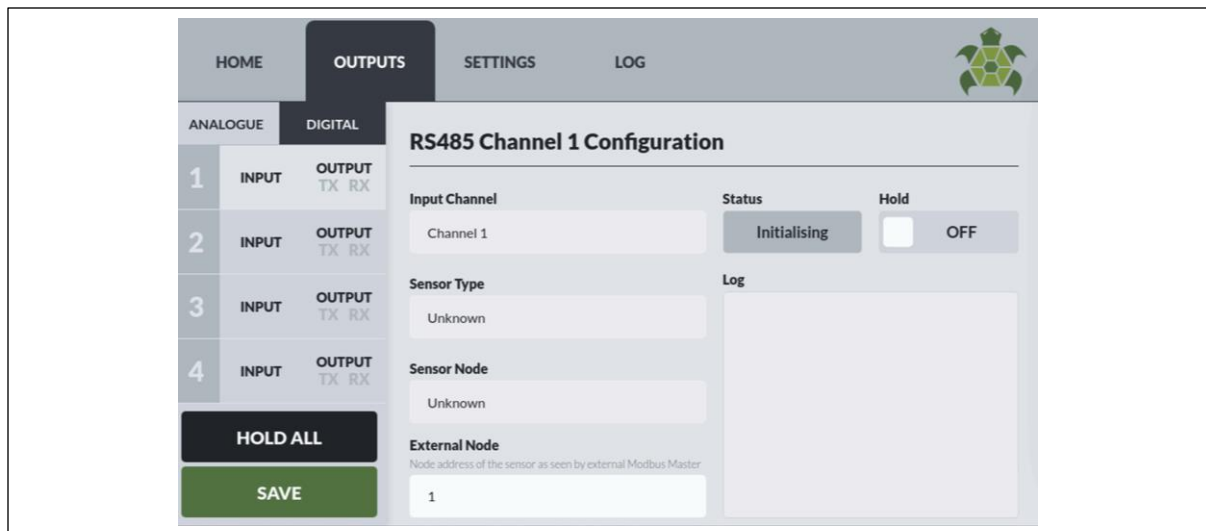

Figure 17 – Initialisation screen for the Digital tab.
- INITIALISING** – This is the default state upon power-up when no valid Modbus message has been recognized by the analyser. Figure 17 shows the default screen during startup. No information is shown until a valid message has been received.